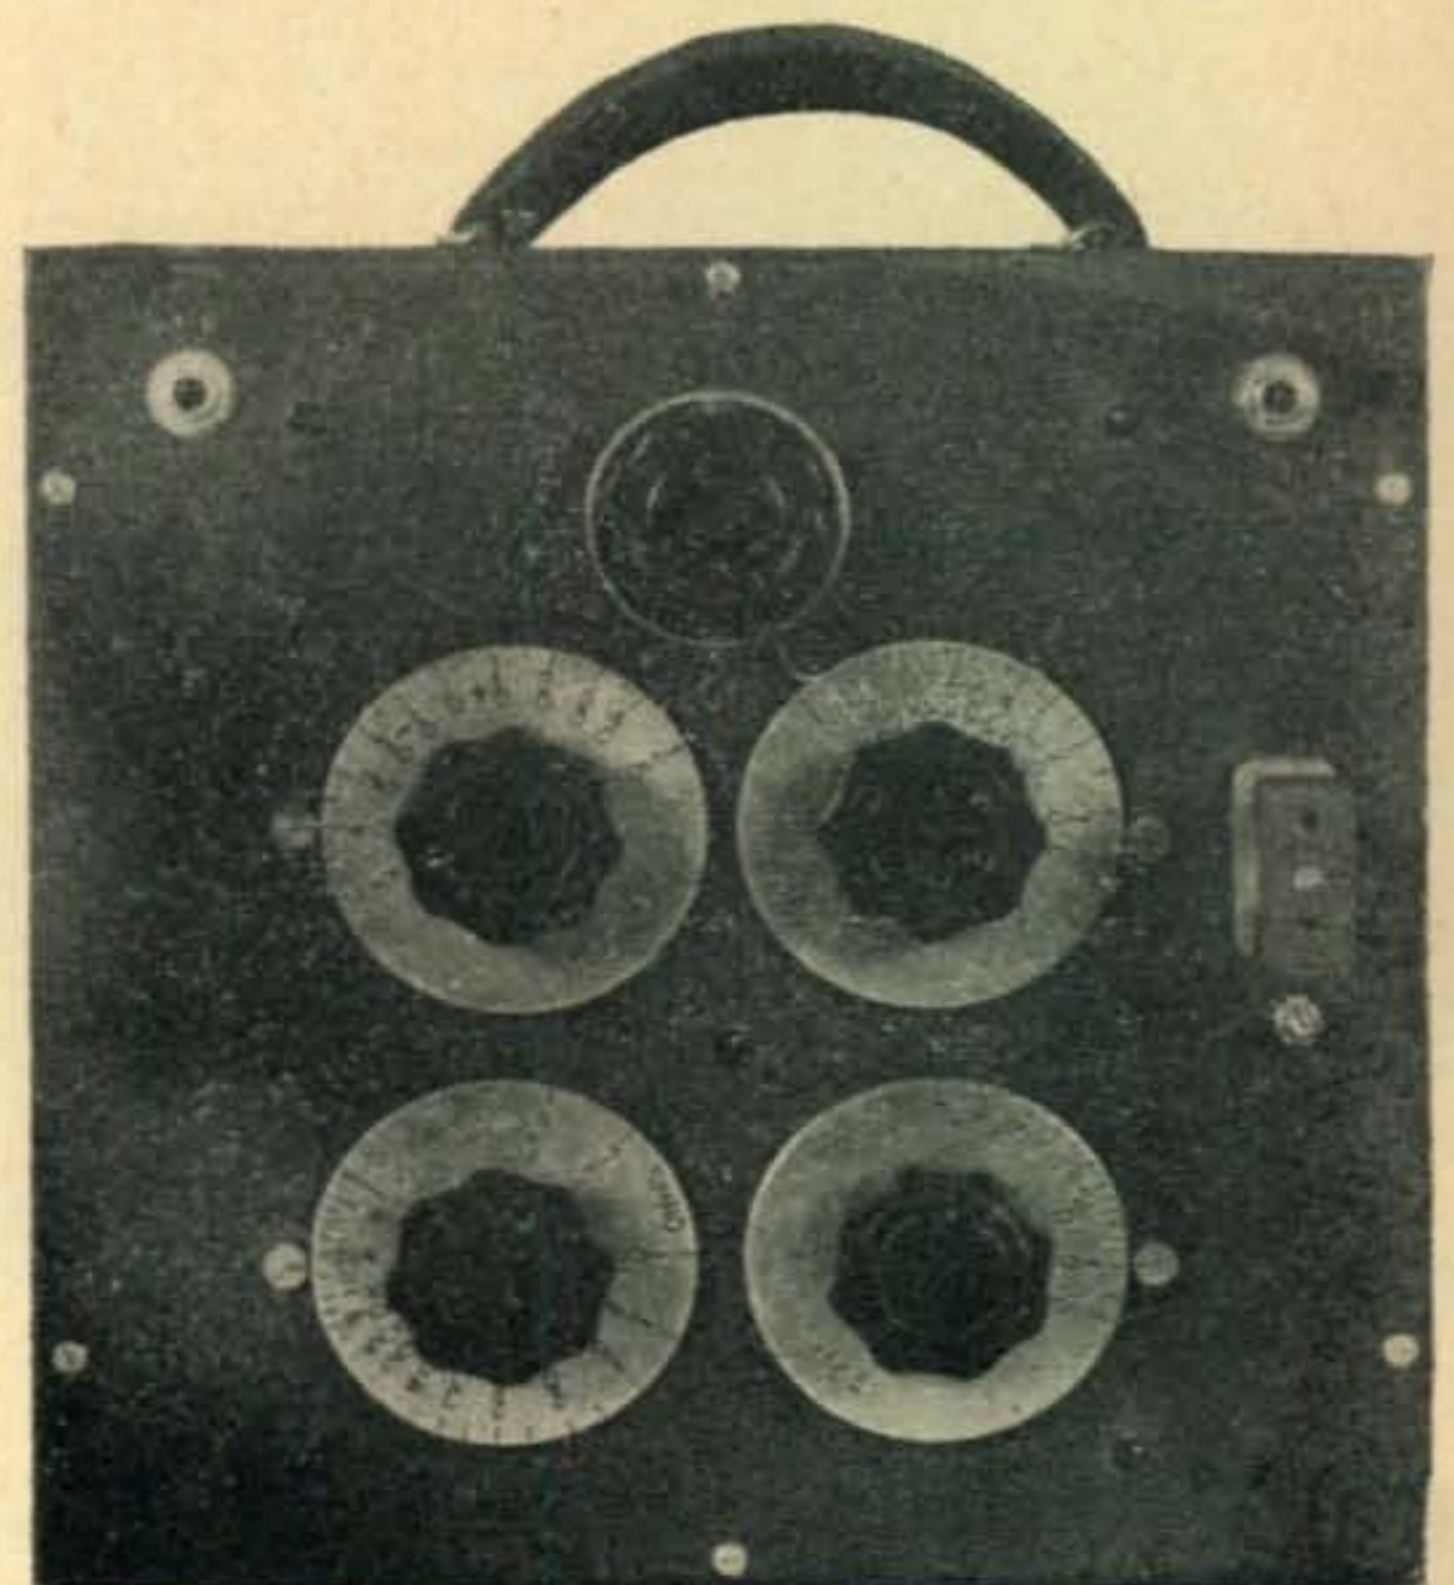

Fig. 5. Front view of the balanced r-f bridge
coils in the reactive arm should be tapped in overlapping ranges in order to facilitate measurements of large or small values of external reactance. A desirable inductive range can be obtained with a set of 5 coils, tapped to give ten values of inductance covering from  $\frac{1}{4}$  up to 15 microhenries. Constructional details of the bridge diagrammed in *Fig. 3* are suggested in the photograph of *Fig. 4* while a front view of the completed instrument is shown in *Fig. 5*.
**Fig. 5. The modulators, speech amplifier and power supplies. The large resistor lowers voltages for test purposes had convinced us that some amount of QSY would be necessary.**